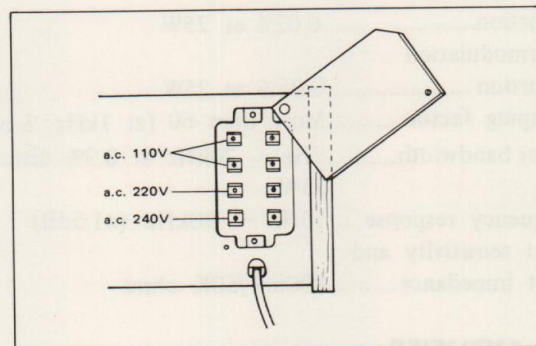

Figure 3
PREPARATION FOR USE**MAINS VOLTAGE SELECTION (Refer to Figure 3)**
2. Loosen a screw and slide the cover as illustrated in Figure 3.